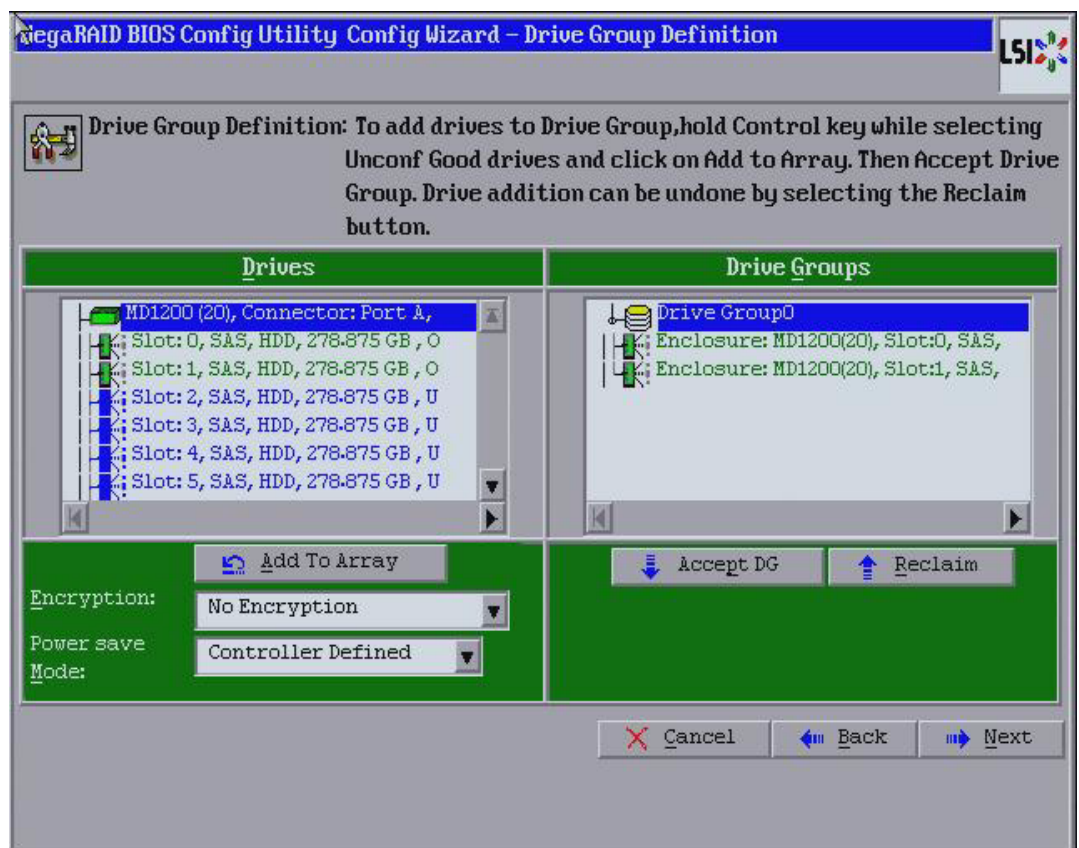

Figure 35: Drive Group Definition Dialog
2. Click **Add To Array** to move the drives to a proposed drive group configuration in the **Drive Groups** panel on the right, as shown in Figure 35.